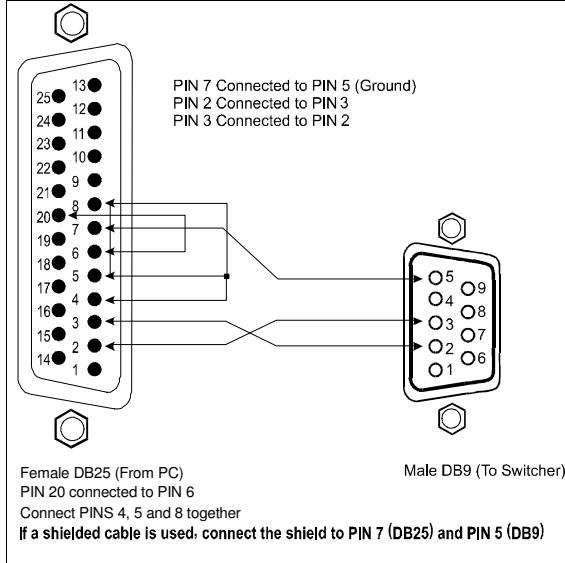

Figure 10: Connecting a PC (with a 25-pin connector) without a Null-modem Adapter
1. Connect the PC's DB25 COM port to the RS-232 IN DB9 port on the unit, as Figure 10 illustrates: